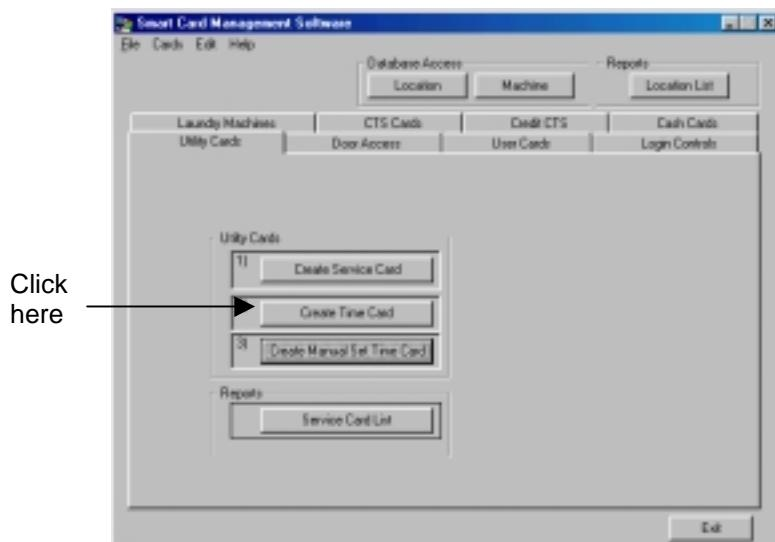

Figure 13.6 To Create a Time Card
1. Click the Create Time Card button in the Utility Cards Manager (Figure 13.6).